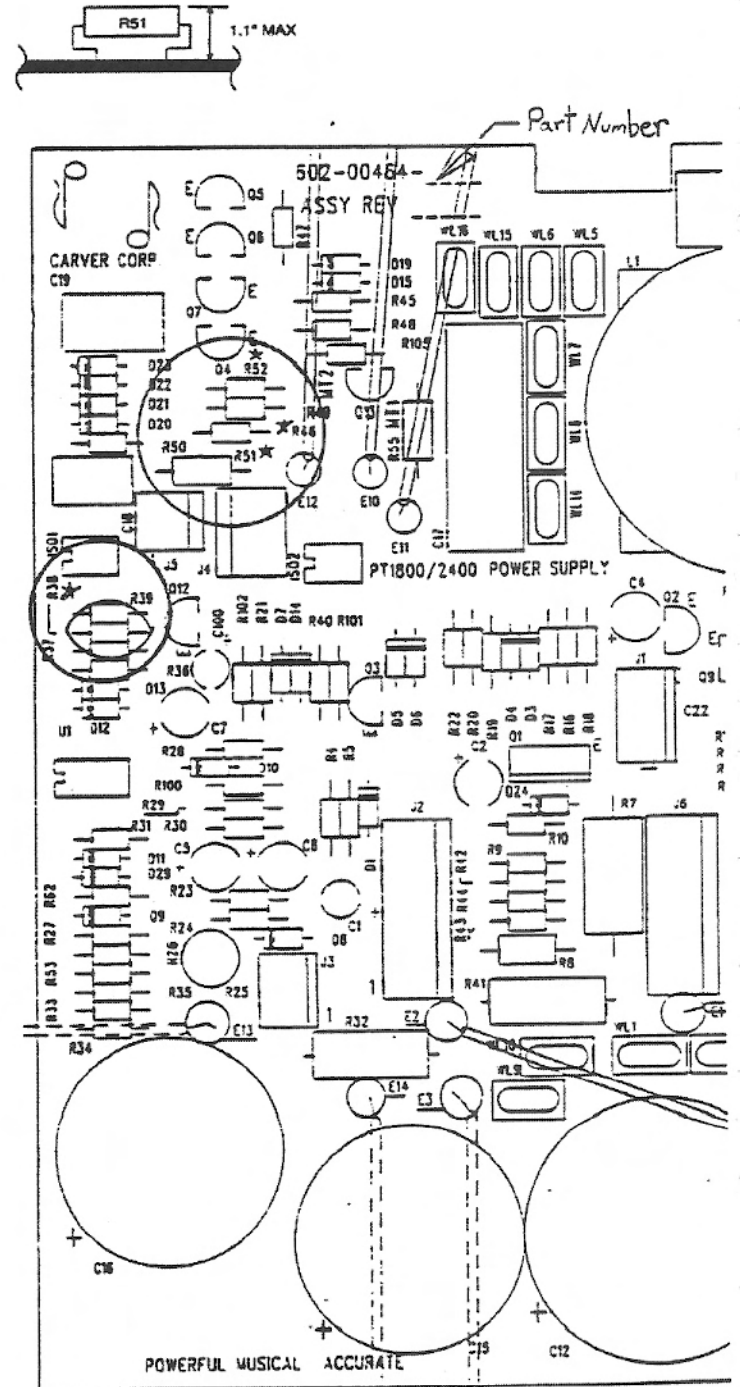

Figure 2. 602-00464-___ Power Supply Board
1. Locate R52 on each power supply board (see Figure 2). Install a 0.22 μ F/100V polyfilm capacitor (Carver P/N 204-00030-00) in parallel across R52.